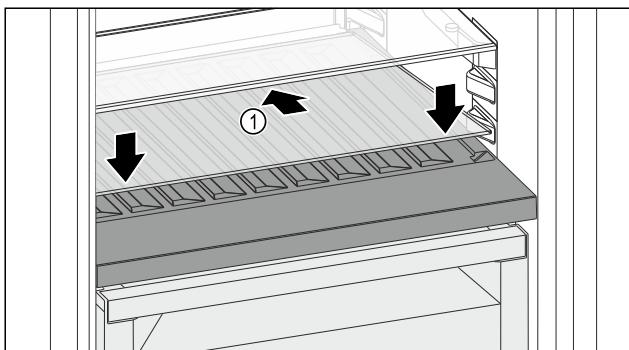

Fig. 118
- ▶ Place the glass shelf Fig. 118 (1) at an angle, sloping it downwards and backwards.
- ▶ Lower the glass shelf Fig. 118 (1) at the front.